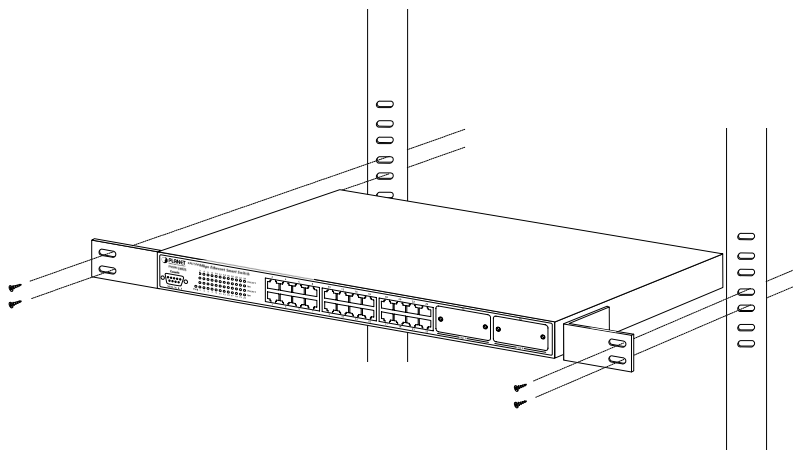

Figure 2-5 Mounting the Switch in a Rack
Step5: After the brackets are attached to the Switch, use suitable screws to securely attach the brackets to the rack, as shown in figure 2-5.